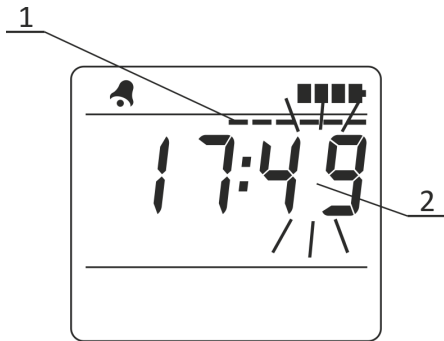

Figure 2.16 – LCD of the radiometer
To proceed to the submode of time and date correction, press and hold THRESHOLD button until a stripe (1) “moving” across the instantaneous value indicator appears on the LCD, and the digits of minutes (2) start blinking (Figure 2.16).